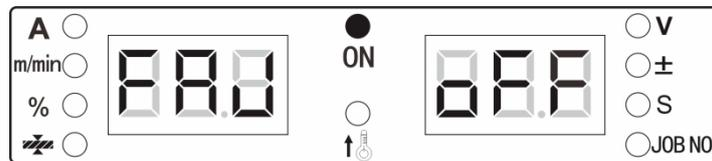

Fig. 3-17 FAJ display interface
1. Enter the internal menu and find **FAJ** by turning the knob. The digital meter is as displayed in Fig. 3-17.